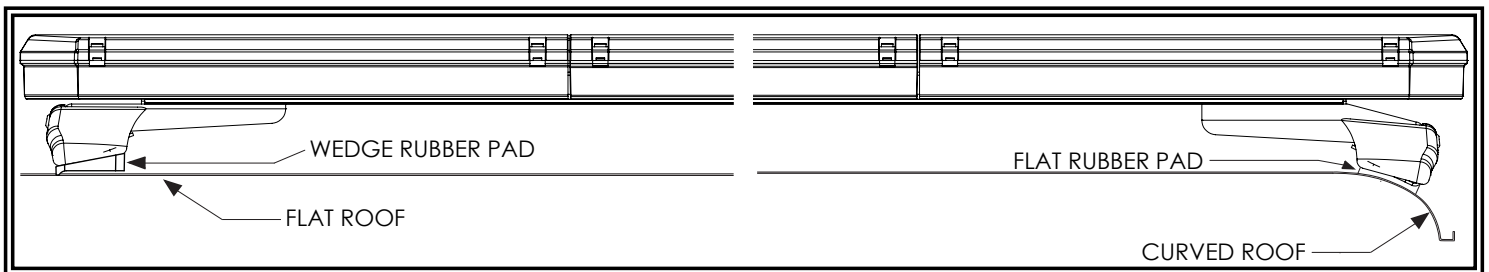

FIGURE 2
1. Loosen the 5/16" nuts to allow the mounting feet to slide along the base. Place the lightbar on the vehicle in the determined location and slide the mounting feet into position. It is suggested that positioning of the feet be symmetrical and positioned near the curved edges of the roof where the roof is strongest. See FIGURE 2.